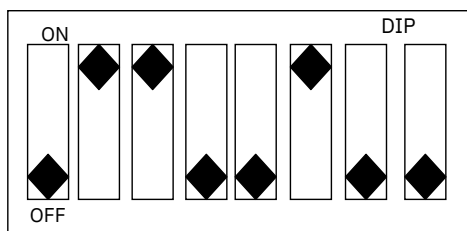

Figure 6
C. "DIP" Switch: P.C. board is equipped with 8 "DIP" switches, which do not need to be adjusted in normal operation, all switches are set to OFF position except No.2, No.3 and No.6 switch to ON position, as shown in Figure 6 below.